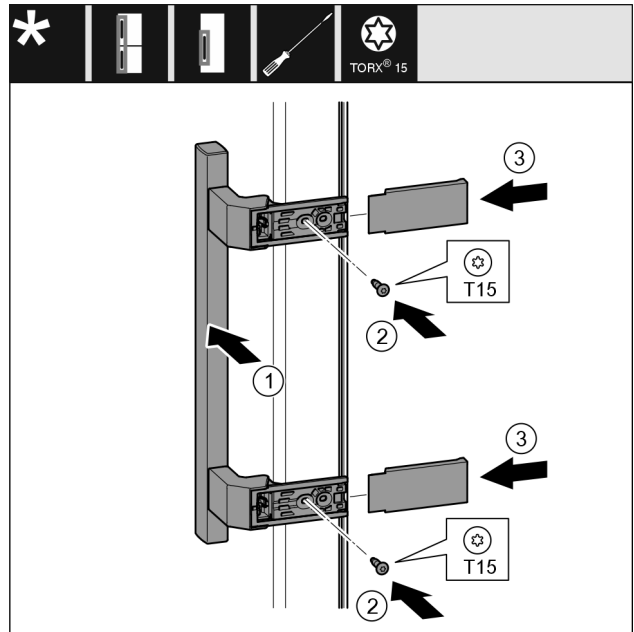

Fig. 9
- ▶ Attach the handle on the opposite side. Fig. 9 (1)
- ▶ Tighten screws with screwdriver T15. Fig. 9 (2)
- ▶ Place the covers on the side and push them on. Fig. 9 (3)